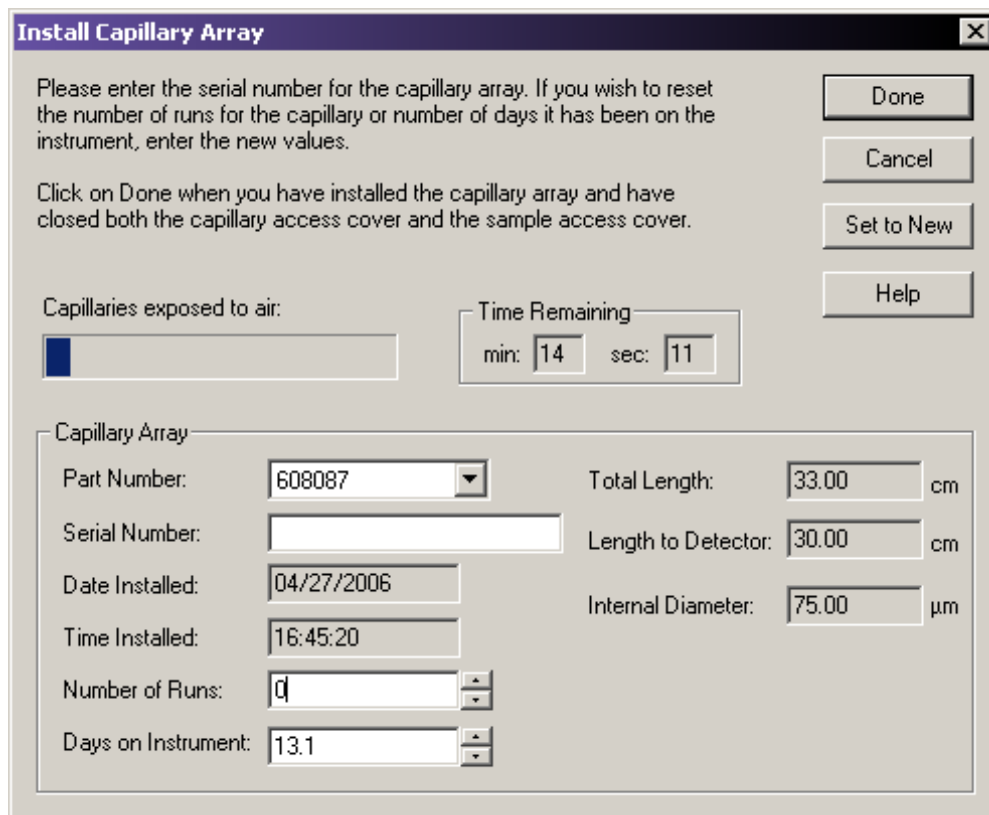

Figure 3.47 Install Capillary Array Dialog Box
- If you are installing a new capillary array, in the Install Capillary Array dialog box (Figure 3.47), select the correct part number, enter the serial number, click **Set to New**, then click **Done**. The number of runs and days on instrument will revert to “0.”